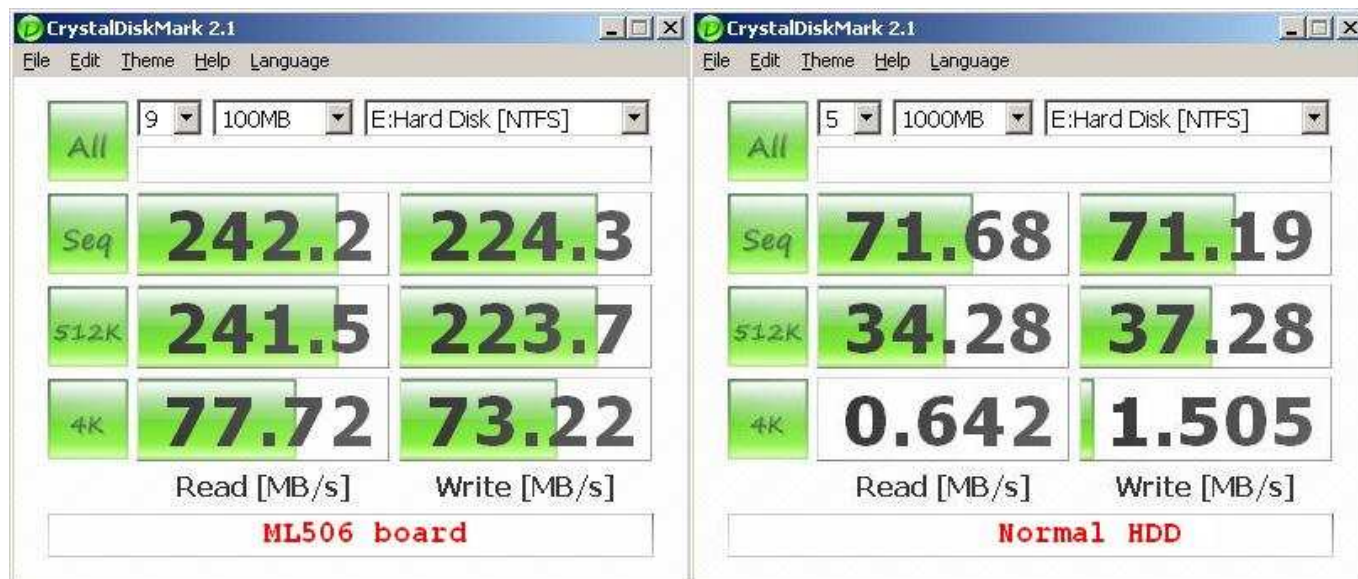

Figure11 Disk performance test by benchmark
- Now disk can be read/write by file system operation. Figure11 shows disk speed of SATA-IP comparing with typical SATA disk.